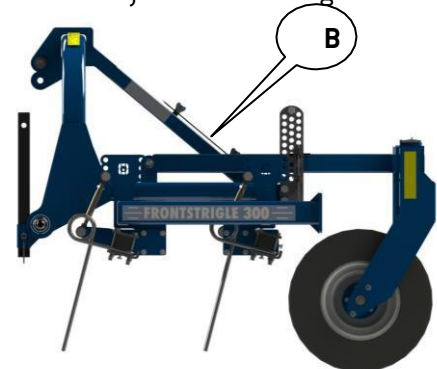
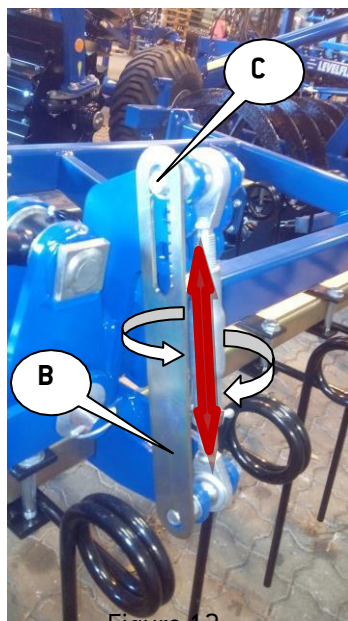

Figure 12
Figure 13
The tines angle on the harrow can be changed, as shown in figure 12, by using 4 spindles (A). In order to achieve the same angle on all 4 bulls, the measuring tool should be used, figure 13 (B), which is placed as shown in figure 14 (C). There are small notches on the measuring tool that can be adjusted according to the spindle